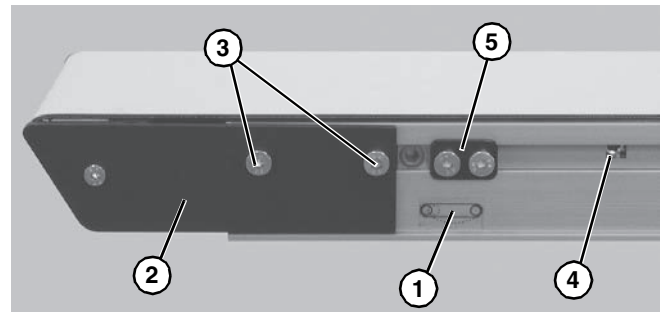
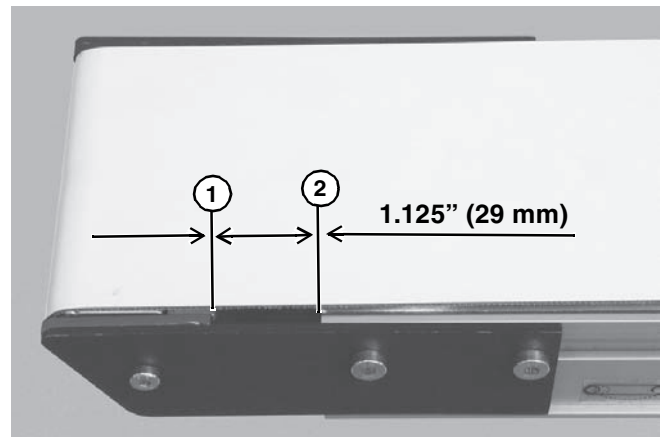

Figure 49
Figure 50
1. On tension end of the conveyor, identified with a  label (**Figure 49, item 1**), adjust head plate assembly (**Figure 49, item 2**): On both sides of conveyor, loosen fastening screws (**Figure 49, item 3**) and rotate pinion gear (**Figure 49, item 4**) to adjust head plate assembly.
2. Adjust head plate assembly so the edge of the axle support plate (**Figure 50, item 1**) is separated from the end of the conveyor (**Figure 50, item 2**) by 1.125" (29 mm). Tighten fastening screws (**Figure 49, item 1**) on both sides of conveyor to 60 in-lb (7 Nm).
3. If equipped with cam tracking assemblies (**Figure 49, item 3**) position against head plates and adjust belt tracking. Refer to "Conveyor Belt Tracking" on page 20.